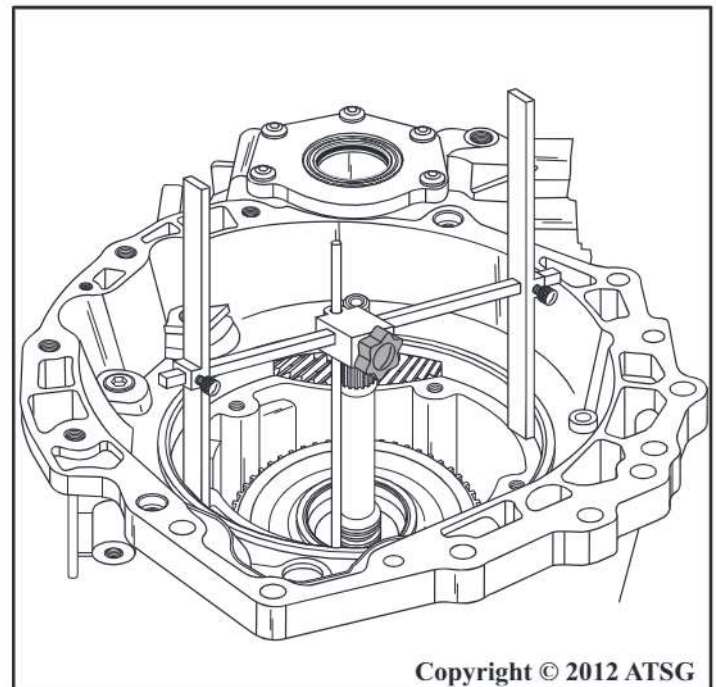

Figure 259
56. Install "H" gage on transaxle case pump surface, as shown in Figure 259, and lower adjustment rod down inside the housing to the surface of the number 1 thrust bearing and tighten adjustment rod locking knob.